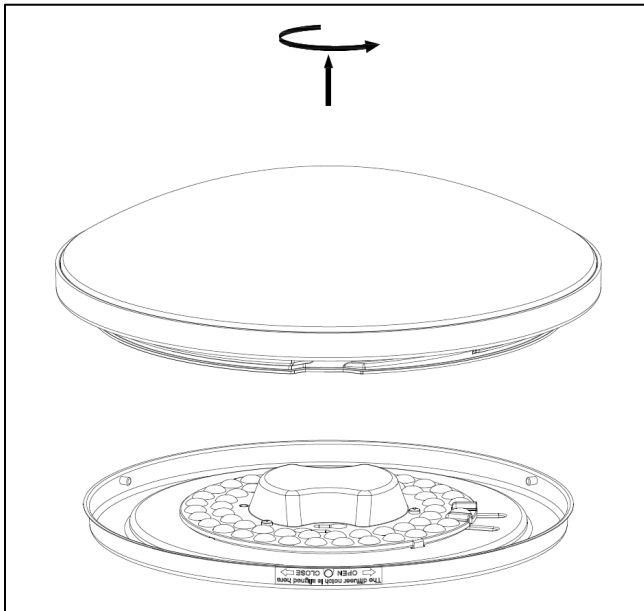

Figure 4
5. Remove diffuser (4) by rotating the diffuser toward the OPEN direction from the housing assembly (2). (See Figure 4)
1. Remove diffuser (4) by rotating the diffuser toward the OPEN direction from the housing assembly (2). (See Figure4)